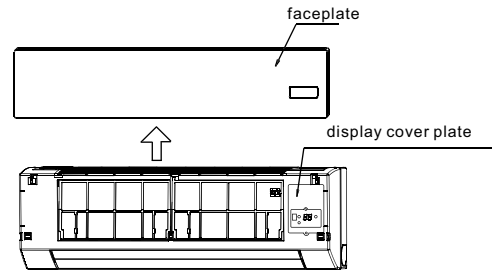

Fig.7-1
- Take out the faceplate, then dismantle the display cover plate. (Refer to Fig 7-1)